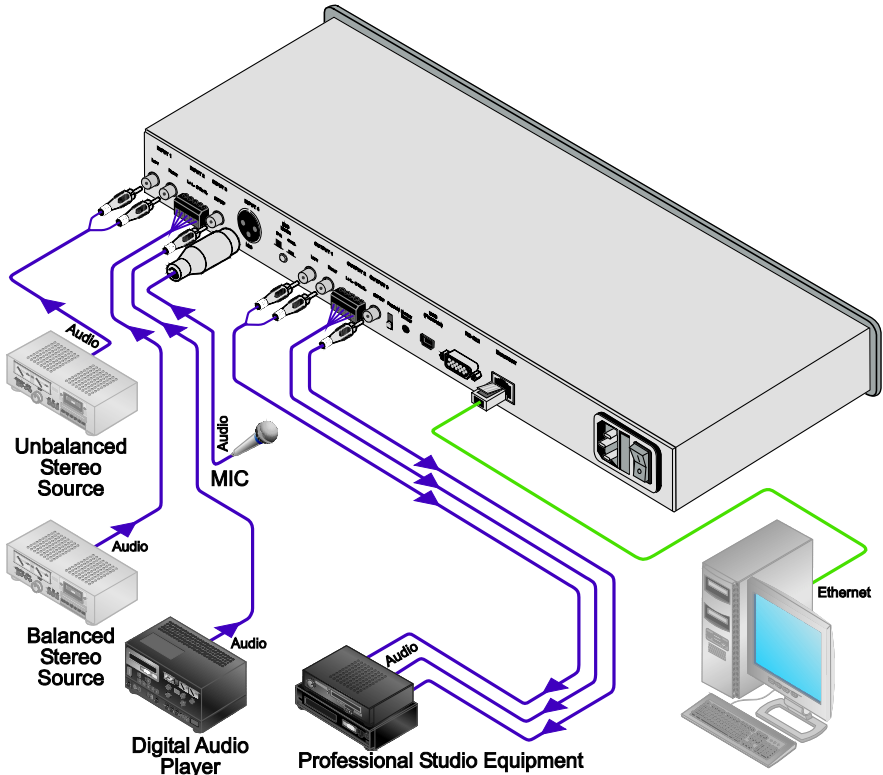

Figure 2: Connecting the 910 Digital Audio Preamplifier
To connect the **910** as illustrated in the example in Figure 21:
- Connect left (L+, L-), right (R+, R-) and ground (G) terminals on the OUTPUT 2 terminal block connectors to a balanced stereo audio acceptor (for example, a power amplifier)
4. Connect the power cord2 (not shown in Figure 2).